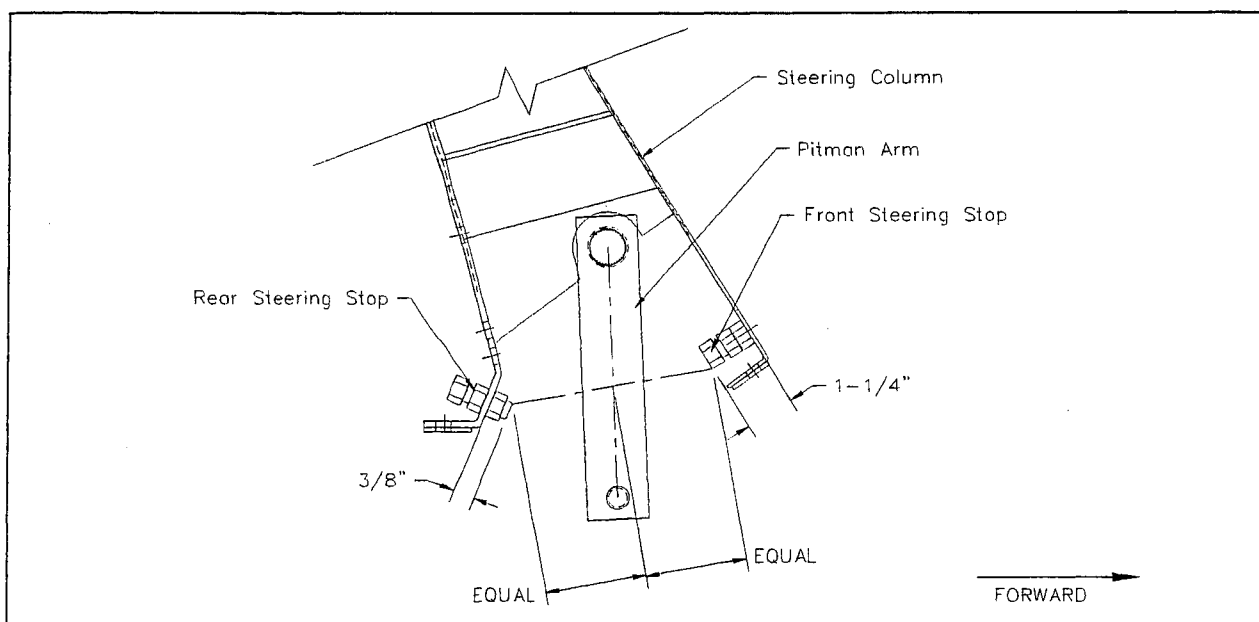

Figure 3-15
- If the steering column has been replaced, install the steering stops to the dimensions shown in figure 3-15 and tighten down the jam nuts on each.
- With the steering column on its side, the output shaft up, install the pitman arm approximately mid-way between the steering stops and tighten down to 70 ft-lbs (see figure 3-15).